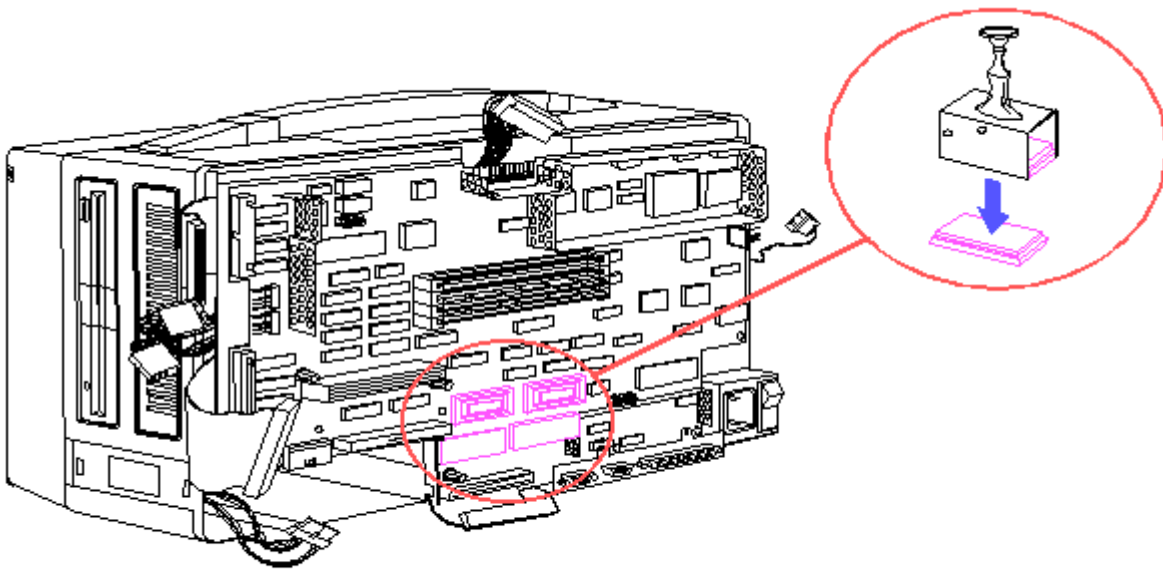

Figure 8-31. Inserting the New System ROM
- Using an IC insertion tool, insert the new ROM into the appropriate sockets (Figure 8-31).